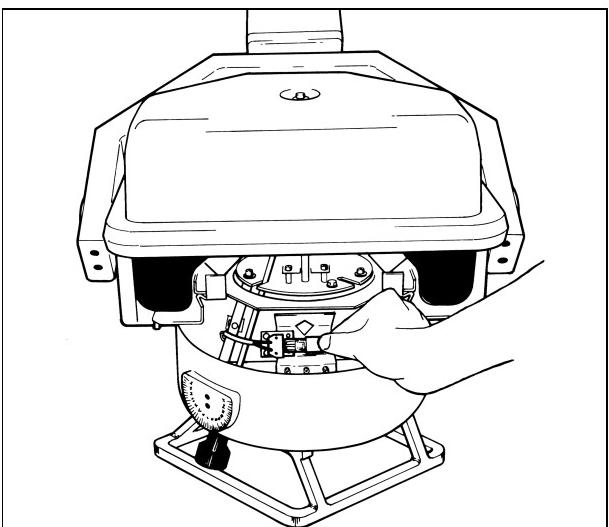

Fig. 3
- Disconnect switch element by turning the red lock counter clockwise (pos. 1 / Fig. 3).
- Remove the defective lamp and replace it with a new lamp (Fig. 3). **Do not touch the bulb with bare fingers.** (See "list of spare parts".)